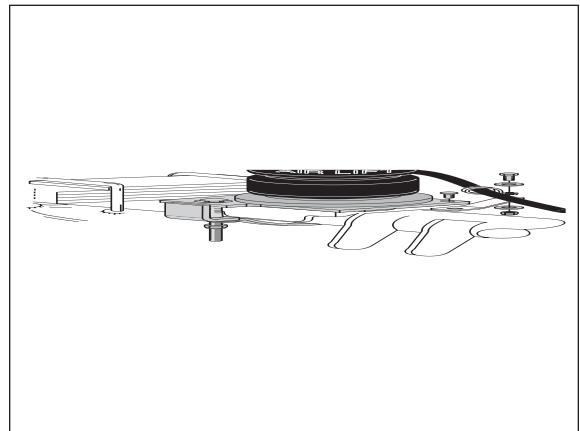

Figure 7
1. Bend tabs to provide a $\frac{1}{2}$ " dead air space between exhaust pipe and heat shield (Figure 7).